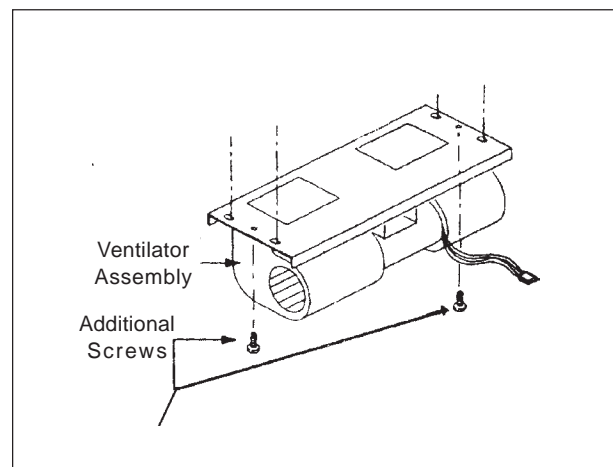

Figure 12d
4. Attach two (2) additional screws as shown in Figure 12d.
Verify that the two (2) additional screws in Figure 12d are installed and properly tightened before continuing.